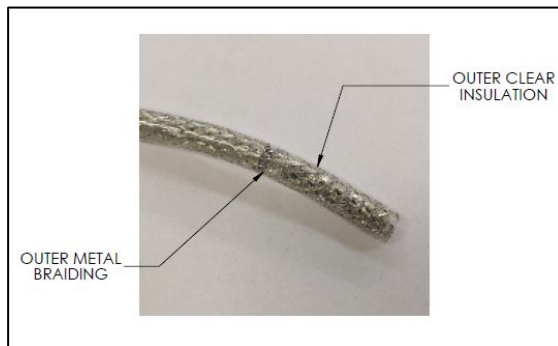
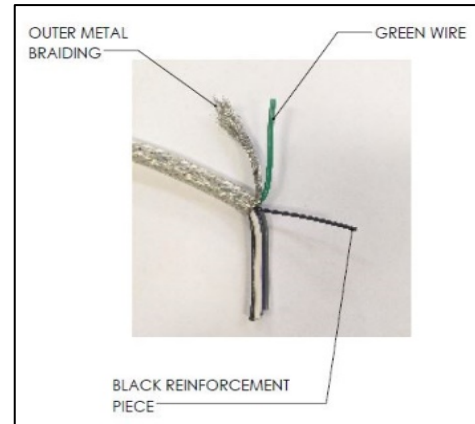

FIG. 20
FIG. 21
1. Strip off 1.00" of outer clear insulation exposing the outer metal braiding as shown in FIG. 20 below. **Be careful not to cut or damage the outer metal braiding.** Gently push braiding down to loosen the individual braids and to one side of inner wires. Locate the green wire and the Solid black plastic reinforcement piece (the thinner black wire that has no copper wires inside). Cut the metal braiding, thin black wire, and green wire back to the outer insulation as shown in FIG. 21 below.